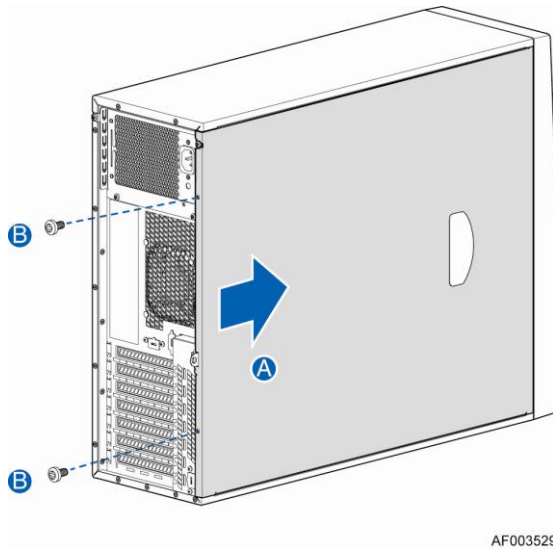

Figure 13. Installing the Chassis Cover
1. Slide the chassis cover on the chassis (see letter **A** in Figure 13).
3. Secure the chassis cover with the screws (see letter **B** in Figure 13).